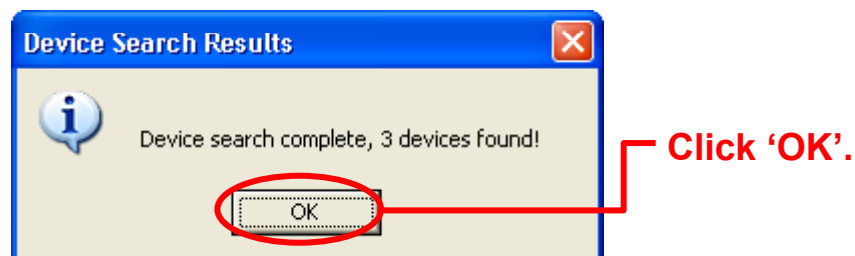

Figure 4-3. Device Search Results.
- At completion of the search, a notification will appear showing the number of devices found (Figure 4-3).
- Click OK on the device search results dialog box (Figure 4-3). Pre-configured and new devices found will display in the 'Device Information' list (Figure 4-4).